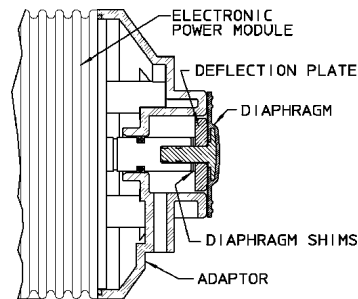

FIGURE 14
- Slide the diaphragm deflection plate onto the back of the diaphragm stud, radius side towards the diaphragm. Next slide two shims onto the diaphragm threaded stud and screw the diaphragm into the EPM unit. Refer to Figure 14. Turn diaphragm clockwise until deflection plate and shims are tight against solenoid shaft and the diaphragm stops turning. If there is a gap between the adaptor and diaphragm, repeat the procedure removing one shim each time until the diaphragm just touches the adaptor or is slightly recessed.